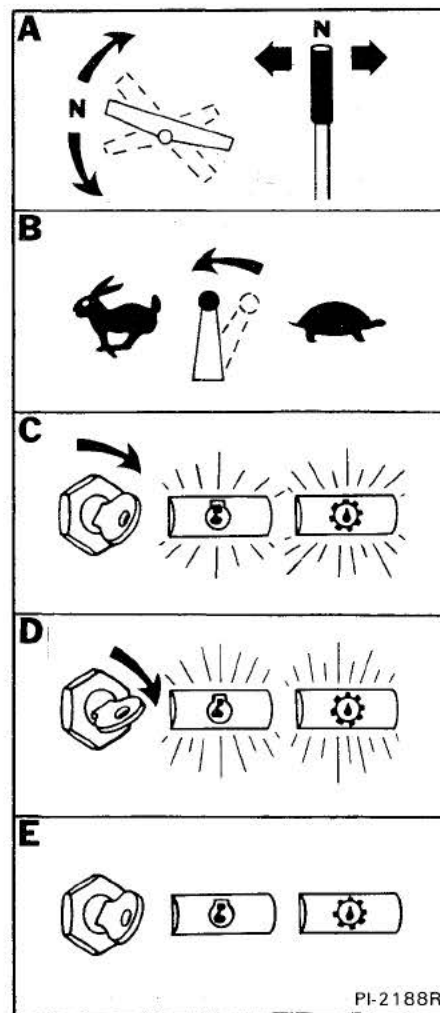

Fig. 23 Starting Procedure
2. Make sure that the controls are in the neutral "CENTER" position (Fig. 23, Item A).
3. Put the throttle at 1/2 throttle position (Fig. 23, Item B).
4. Turn the key switch to the "ON" position. Check that the engine and the transmission warning lights are illuminated (Fig. 23, Item C).
5. Turn the key switch to "START" and hold it until the engine starts (Fig. 23, Item D). The engine must start within fifteen seconds. DO NOT run the starter more than fifteen seconds. Let the starter cool for one minute before engaging the starter again.
When the engine has started, the warning light must go off (Fig. 23, Item E). Stop the engine if the warning lights do not go off. Check for the cause of the problem (See the "Troubleshooting" section of this manual).
5. Turn the key to "START" and engage the starter (Fig. 23, Item D). The engine must start within fifteen seconds. DO NOT run the start more than fifteen seconds. Let the starter cool for one minute before engaging the starter again.